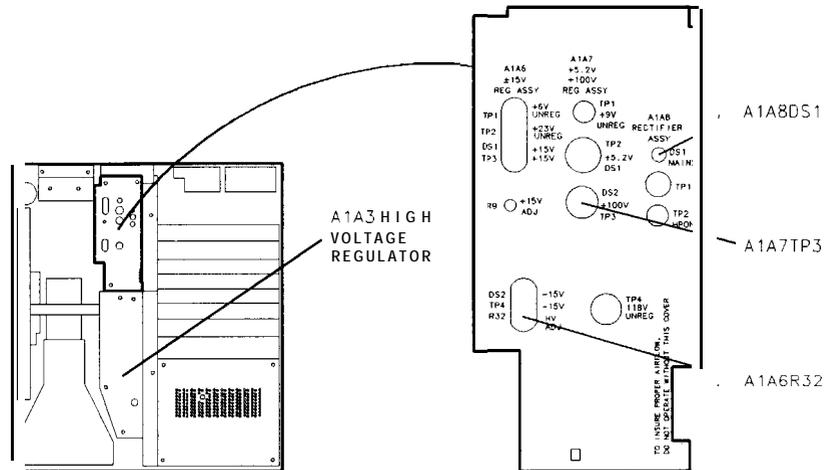

Figure 3-6. Location of High Voltage Adjustments
3. Set the DVM to the 100 V range, and connect the DVM to A1A7TP3 (+ 100 V). Do not use the high-voltage probe. See Figure 3-6 for the location of A1A7TP3.
The MAINS power-on indicator A1A8DS1 (red LED) should be completely off before proceeding with this procedure. See Figure 3-6. The indicator will remain lit for several seconds after the ac line cord has been removed, and will go out slowly (the light becomes dimmer until it is completely out).
15. Adjust A1A6R32 HV ADJ for a DVM indication equal to the calibration factor (calculated in step 8) times the voltage labeled on the top of A1A3 High-Voltage Regulator (noted in step 11). **See** Figure 3-6 for the location of the adjustment.